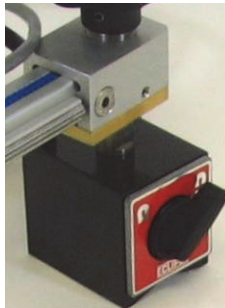

Figure 2-41 Magnetic-activation lever in the “off” position
2. Before placing the scanner on the inspection surface, ensure that the magnetic-activation lever is in the “off” position (see Figure 2-41 on page 54).